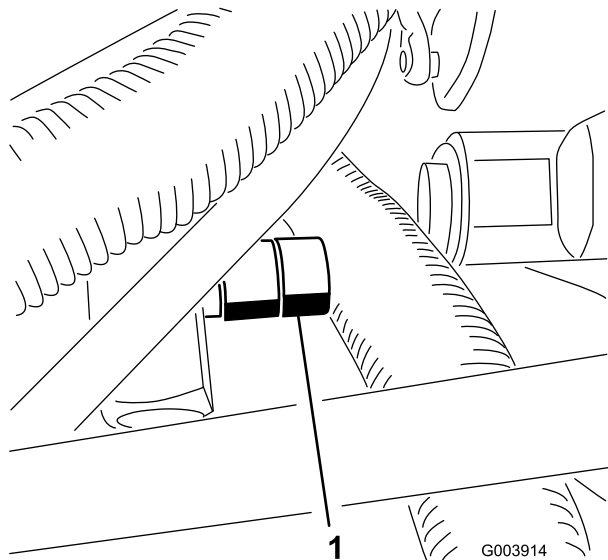

Figure 75
1. Locate the valve on the flow divider (under the foot rest) (Figure 75).